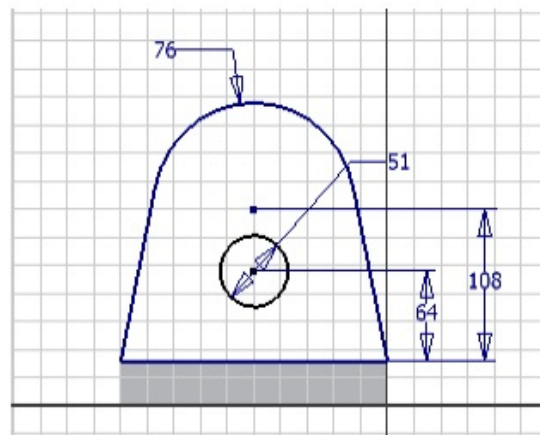

Figure 5-83 Sketch of the feature on the back face
- Define a new sketch plane on the back face of the base feature and create the join feature with a hole, refer to Figure 5-83.
4. Draw the sketch of the feature using various sketching tools, see Figure 5-83.
fully constrained. The sketch after dimensioning should look similar to the one shown in Figure 5-83.